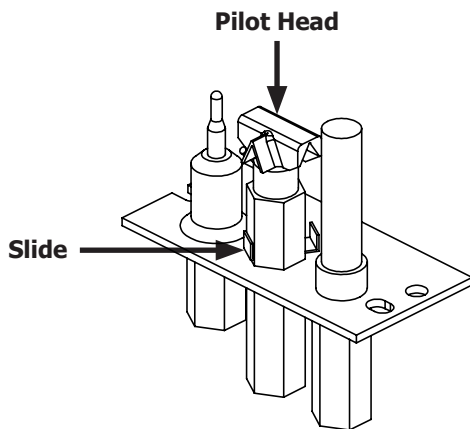

Figure 12: Pilot Assembly
5. Reassemble pilot head in proper orientation (see Figure 12). Be sure not to overtighten pilot, if head does not reach the proper orientation in the snug position then contact your Enviro dealer.